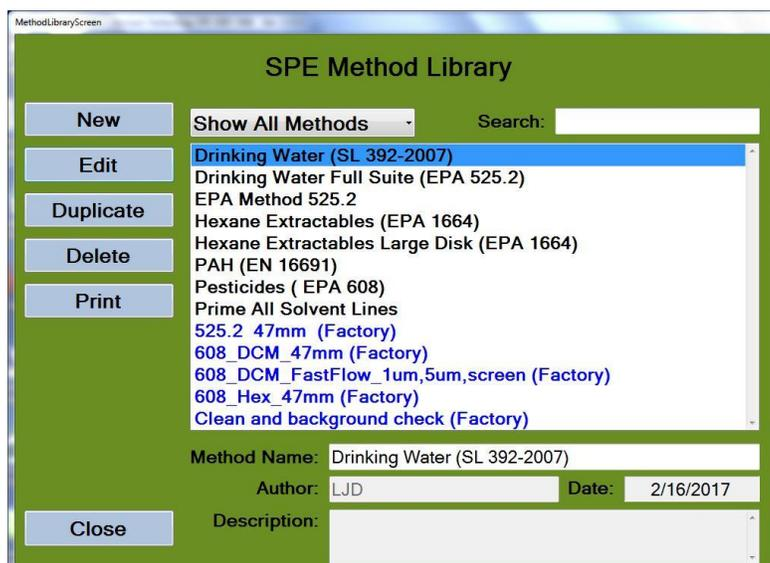

Figure 6-42. SPE Method Library Screen
- Step 2:** Click **Method Library** to open the SPE Method Library screen (Figure 6-42).